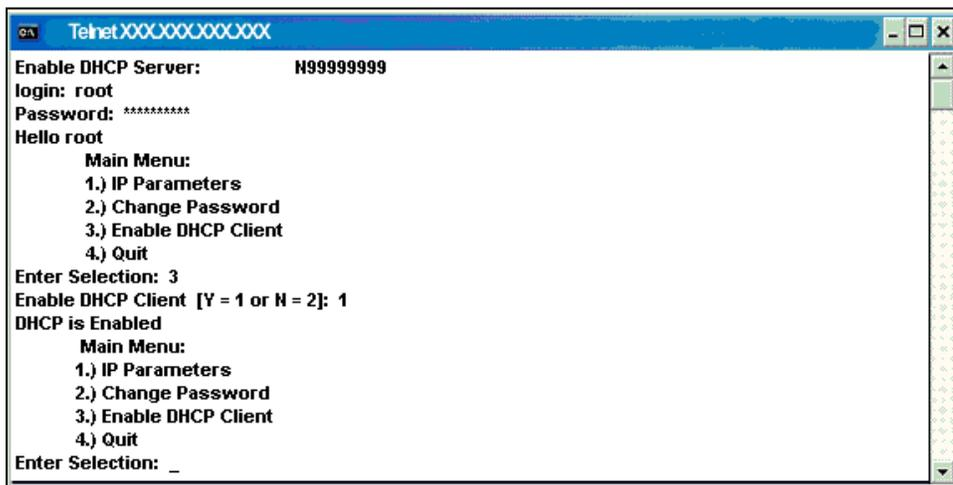

Figure 1-10. DOS Configuration Utility Screen – Enable DHCP Client
You will be prompted to enable the DHCP client with a YES (1) or disable it with a NO (2). Type 1 and press the *Enter* key. The response will be “**DHCP is Enabled**” as shown in Figure 1-10.